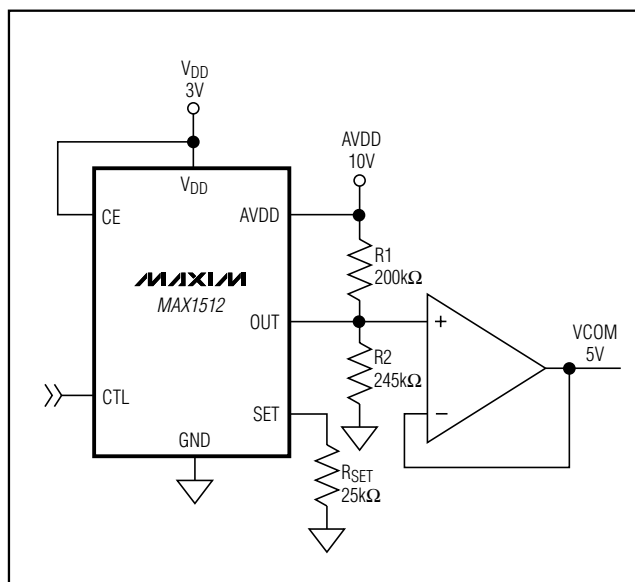
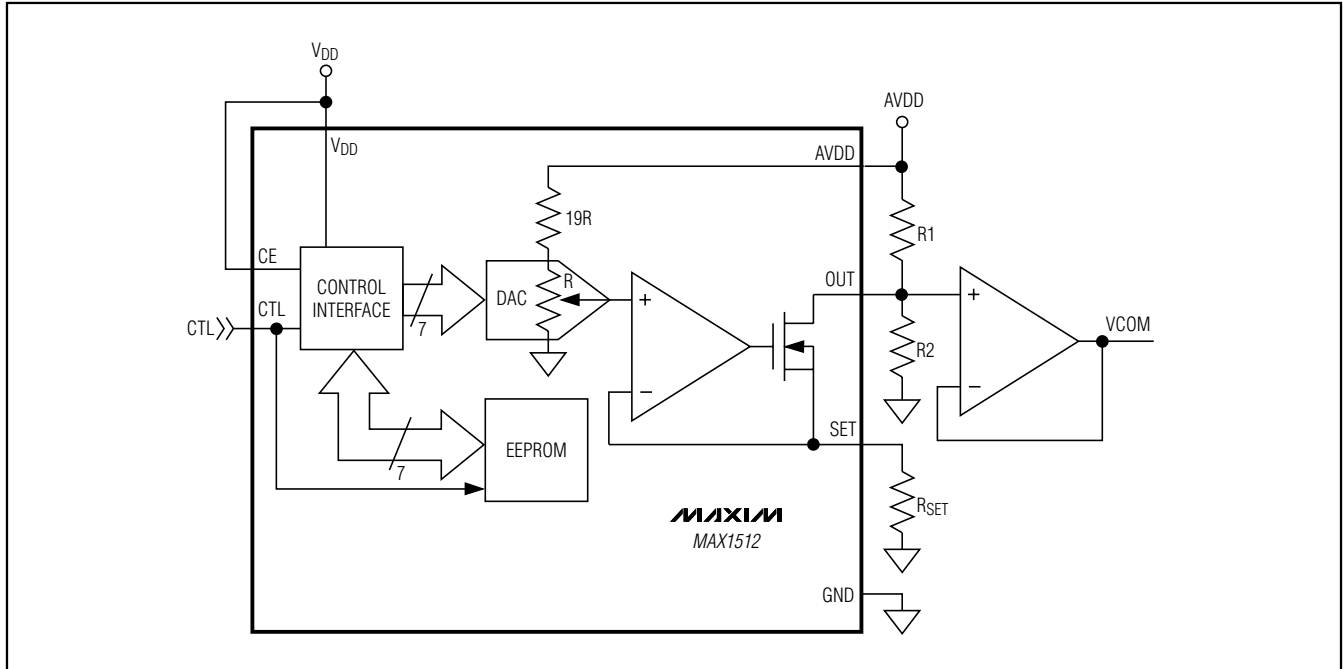

Figure 1. Standard Application Circuit
Figure 2. Simplified Functional Diagram
(Circuit of Figure 1, V_{DD} = 3V, V_{AVDD} = 10V, V_{OUT} = 5V, R_{SET} = 30.1k Ω , T_A = 0°C to +85°C, unless otherwise noted. Typical values are at T_A = +25°C.) (Note 1)
(Circuit of Figure 1, $V_{DD} = 3V$, $V_{AVDD} = 10V$, $V_{OUT} = 5V$, $R_{SET} = 30.1k\Omega$, $T_A = 0^{\circ}C$ to $+85^{\circ}C$, unless otherwise noted. Typical values are at $T_A = +25^{\circ}C$.) (Note 1)
(Circuit of Figure 1, $V_{DD} = 3V$, $V_{AVDD} = 10V$, $V_{OUT} = 5V$, $R_{SET} = 24.9k\Omega$, $T_A = +25^\circ C$, DAC half scale, unless otherwise noted.)
The MAX1512 is a solid-state alternative to mechanical potentiometers used for adjusting the LCD backplane voltage (VCOM) in TFT LCD displays. The MAX1512 attaches to an external resistive voltage-divider and sinks a programmable current (I_{OUT}), which sets the VCOM level (Figure 1). An internal 7-bit DAC controls the sink current and allows the user to increase or decrease the VCOM level (Figure 2). The DAC is ratio-metric relative to AVDD and is monotonic over all operating conditions. The user can store the DAC setting in an internal EEPROM. On power-up, the EEPROM pre-sets the DAC to the last stored setting. The single-wire interface between the LCD panel and the programming circuit adjusts the DAC, programs the EEPROM, and provides programming power.
- Place the VCOM buffer and the R1/R2 voltage-divider close to the OUT pin (Figure 1). Keep the VCOM buffer and the R1/R2 voltage-divider close to each other.